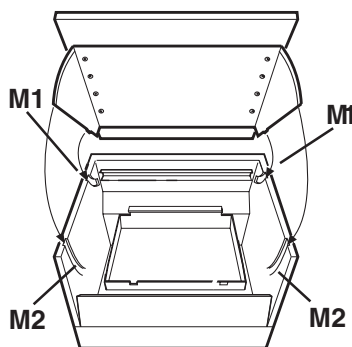

Fig. 10
- Refit the cover on the cooker hood firstly in the upper track (**Fig. 10-M1**), then in the lower track (**Fig. 10-M2**).